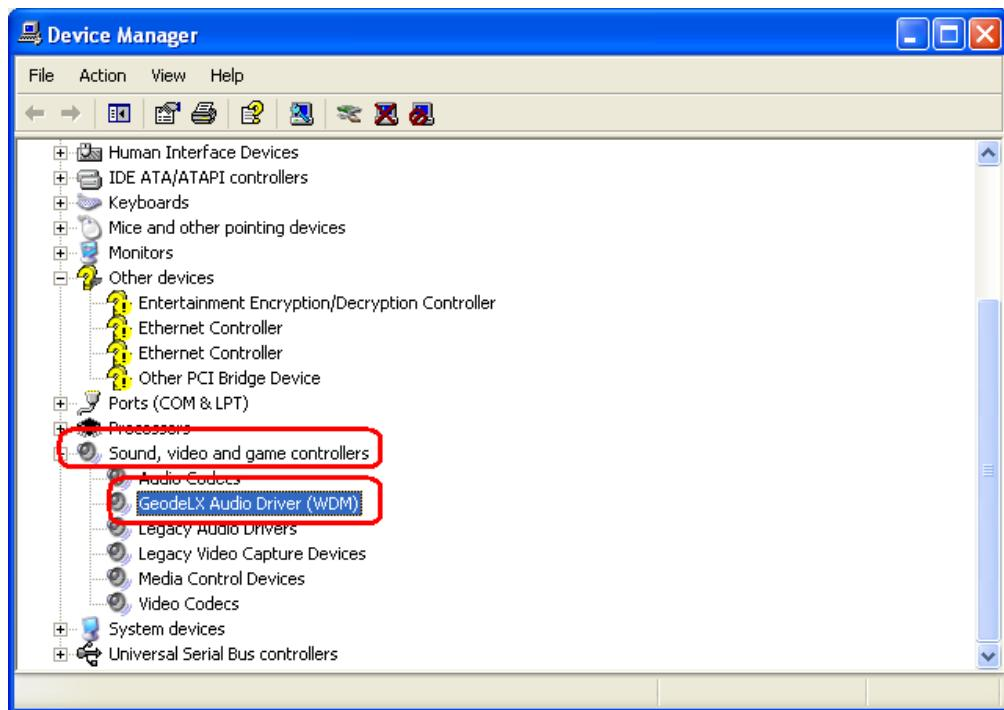

Figure 7-24: Device Manager Update
Step 43: The Device Manager refreshes and the Audio Driver can be seen in the Sound, Video and Game Controllers option. See **Figure 7-24**.